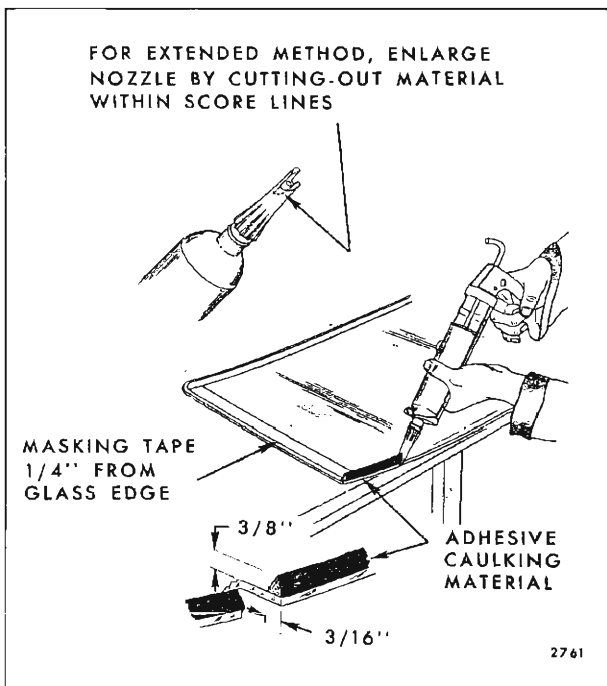

Fig. 4-10—Adhesive Material Application - Extended Method
11. Remove glass from opening and apply one-inch masking tape around inner surface of glass 1/4" inboard from outer edge (Fig. 4-10). On windshield installations, apply tape to top and sides only. Do not use tape across bottom. Removal of tape after glass installation will aid in clean-up and give a smooth, even edge to adhesive material.
15. With caulking gun and nozzle positioned as illustrated in Figure 4-10, carefully apply a smooth continuous bead of caulking material  $3/8$ " high by  $3/16$ " wide at base completely around inside edge of glass.